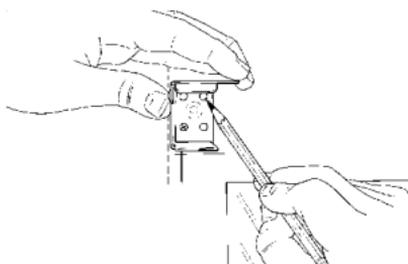

Figure C2
7. Facing the window, position the end bracket marked "LH" above the top left corner of the window,  $\frac{1}{8}$ " TO THE LEFT of the pencil marks. (See Figure C2)
8. Using a pencil, mark the wall through the holes in the back of the end bracket. For maximum stability, the pencil marks should be made diagonally. (See Figure C2)